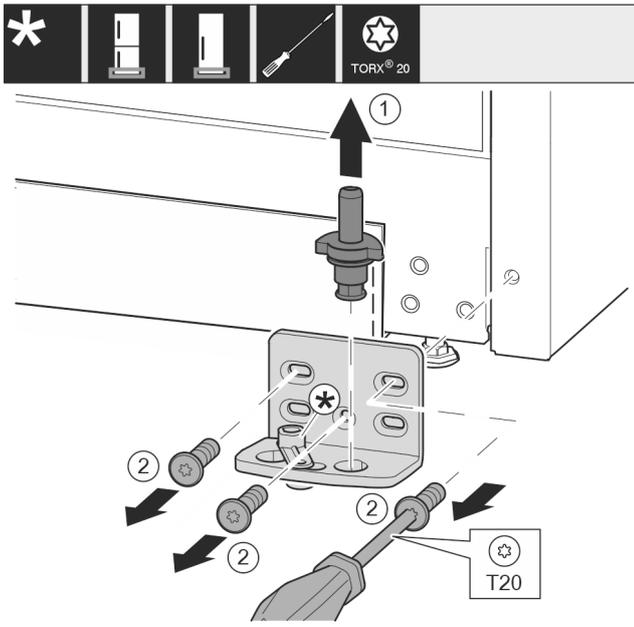

Fig. 44 *
- ▶ Pull the bearing bolt Fig. 44 (1) out upwards completely.*
- ▶ Use screwdriver to unscrew the screws Fig. 44 (2) and remove the swap bearing block.*